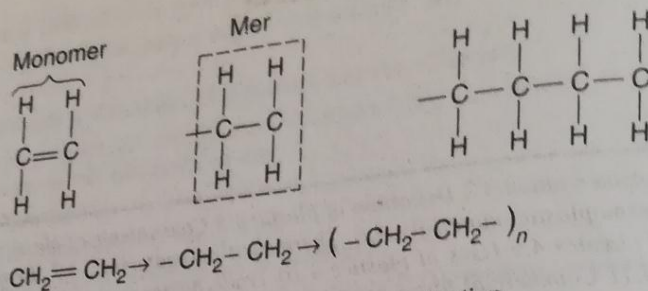

Fig. 4.1. Addition polymerisation.
**Example.** Addition polymerisation of ethylene (Fig. 4.1).